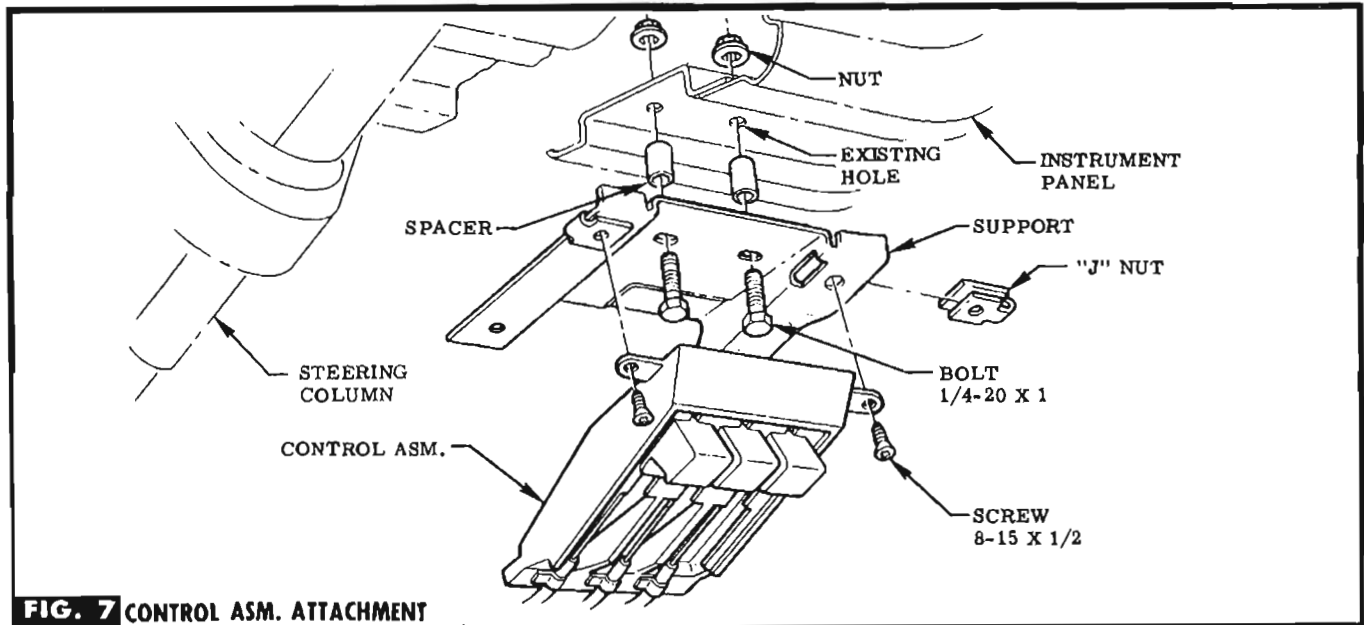

FIG. 7 CONTROL ASM. ATTACHMENT
STEP 34 ATTACH SUPPORT TO INSTRUMENT PANEL WITH SPACERS & ATTACHING PARTS PROVIDED (IN BAG A). SEE FIG. 7.
STEP 35 ATTACH CONTROL ASM. TO SUPPORT WITH ATTACHING PARTS PROVIDED (IN BAG A). SEE FIG. 7.